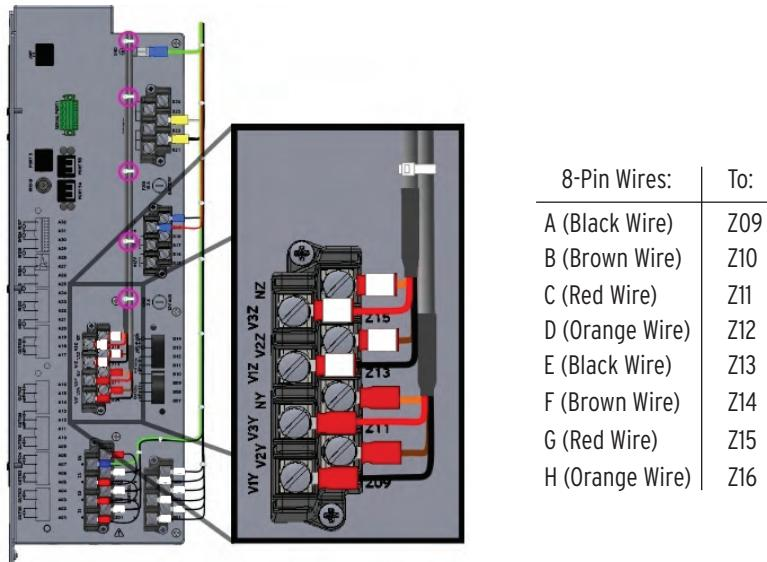

Figure 4 Attach Wires to Control Module
Step 5. Attach the eight-pin harness wires according to the table in *Figure 4* as required for your specific secondary input voltage option. See *Table 1* for SIV-specific wiring. Note that the Z-side wires have white heat shrink on the ring terminals.